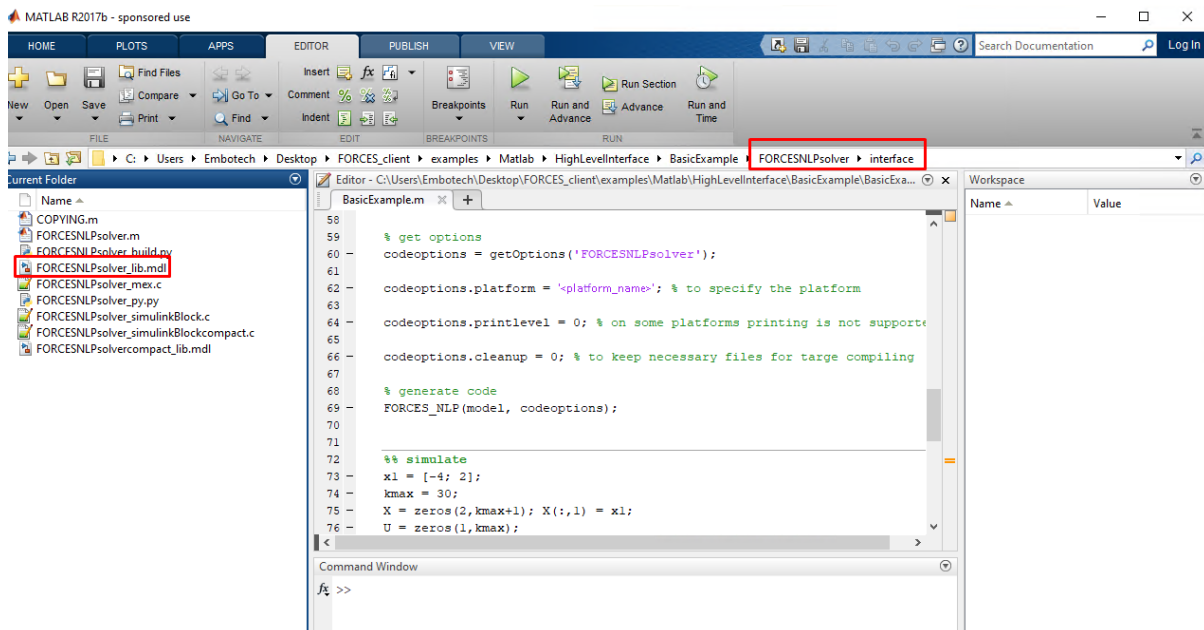

Figure 13.5: Open the generated Simulink solver model.
5. (Figure 13.5) Open the FORCESNLPsolver_lib.mdl Simulink model file, contained in the interface folder of the FORCESNLPsolver folder created during code generation.